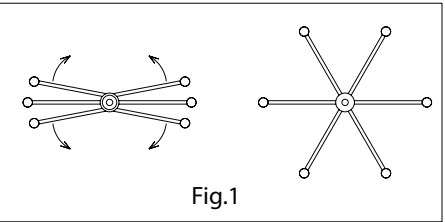

Fig.1
Place the canopy (F) flush to the ceiling and slide the canopy loop ring (H) up beneath the canopy. Tightly screw canopy loop ring (H) onto the canopy loop (G) to properly secure the canopy (F) in place. Adjust the angle of the lamp arms so that they are evenly distributed (see figure 1). The petals on each flower surrounding each light post can be adjusted by hand to achieve the desired look. Install light bulbs (not included) in accordance with the fixture's specifications. Do not exceed the recommended wattage. Turn on the power and test the fixture. Your installation is now completed.